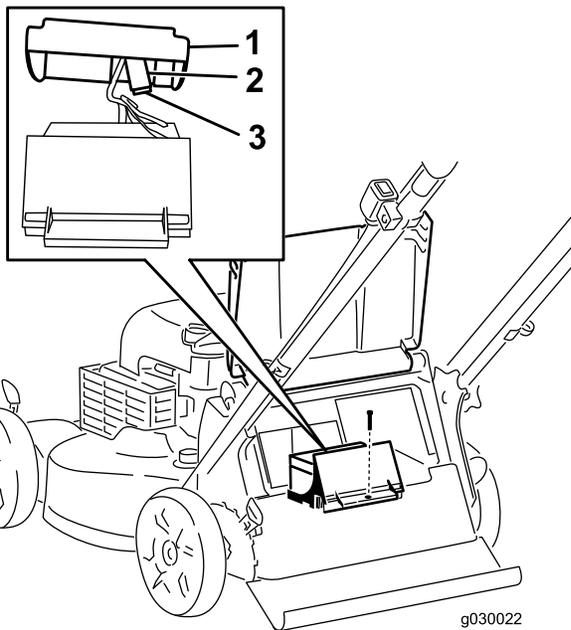

Figure 36
4. Remove the screw that secures the battery compartment, pull out the battery, and locate the fuse (Figure 35 and Figure 36).
5. Replace the fuse in the fuse holder (Figure 36).